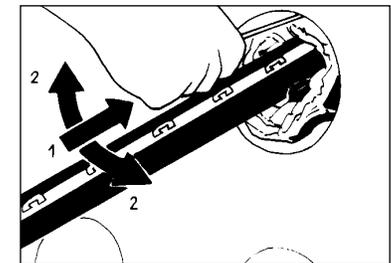

Figure 21
2. Pry the TDUX duct seal away from the duct and from the cable sheath with a blunt tool. Spray lubricant into the released areas so that the TDUX duct seal does not stick to the duct during removal. (Figure 21)